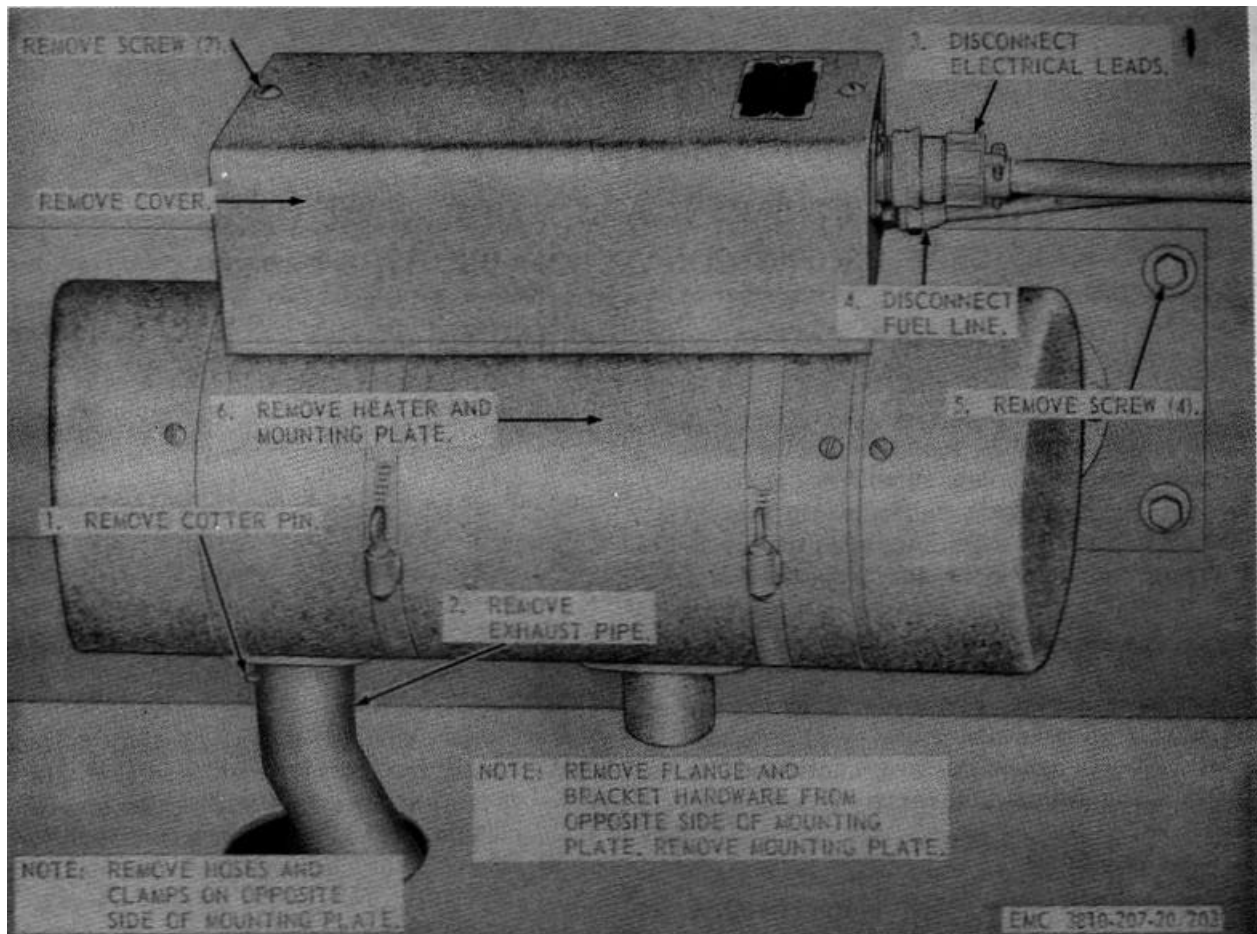

Figure 203. Carrier cab heater, removal and installation.
a. Removal. Remove the carrier cab heater in the numerical sequence as instructed on figure 203.
- (1) Clean the carrier cab heater and mounting hardware with an approved cleaning solvent and dry thoroughly.
- (2) Inspect the heater and mounting hardware for breaks, bends, and other damage.
- (3) Inspect the heater for proper operation.
- (4) Replace mounting hardware as necessary.
- (5) Replace a defective heater as necessary.
c. Installation. Install the carrier cab heater in the reverse of the numerical sequence as illustrated on figure 203.